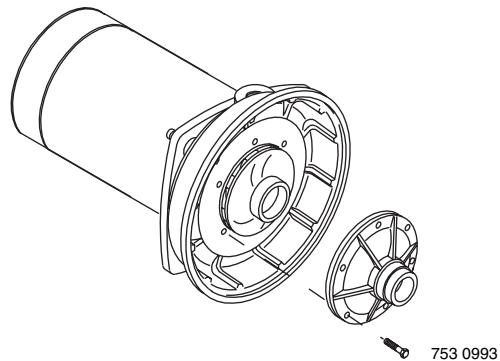

**Figure 19 – Slide Motor Back**
Pump and piping need not be disconnected to repair or replace motor or seal (see Figure 19). If motor is replaced, replace the shaft seal. Keep one on hand for future use.
2. Remove clamp (see Figure 19).
3. Remove pump base mounting bolts. Motor assembly and back half of pump can now be pulled away from pump front half (Figure 19). CAREFULLY remove O-ring.